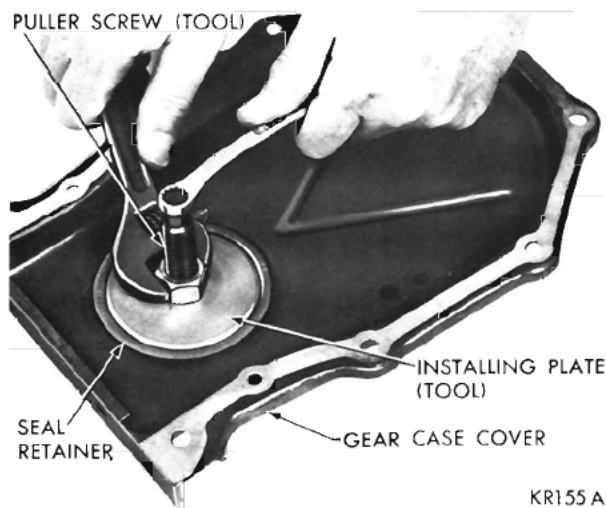

Fig. 92—Installing New Seal Tool C-3506
(4) Install the flat washer and nut on puller screw, hold screw and tighten the nut (Fig. 92).